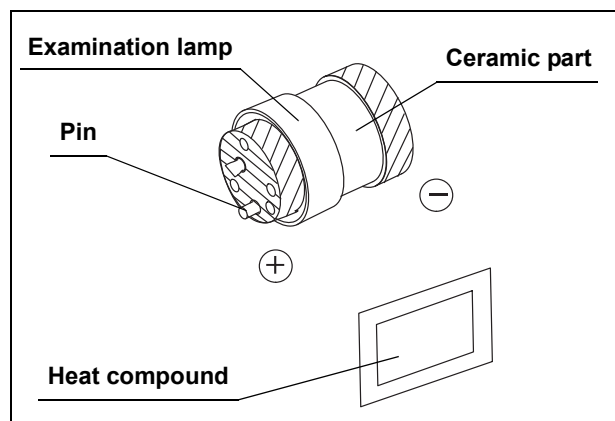

Figure 5.6
2. Using your finger, apply the heat compound, provided with the new examination lamp thickly and evenly on the "+" side electrode of the examination lamp (see the shaded sections in Figure 5.6).
3. Insert the “+” side electrode of the examination lamp (see Figure 5.6) into heat sink (B) and tighten the three bolts firmly with the hexagon wrench.
4. Using your finger, apply the heat compound thickly and evenly on the outer periphery of the “-” side electrode of the examination lamp (see the other shaded section in Figure 5.6).
5. Insert the “-” side electrode of the examination lamp (see Figure 5.6) into heat sink (A) until it stops.